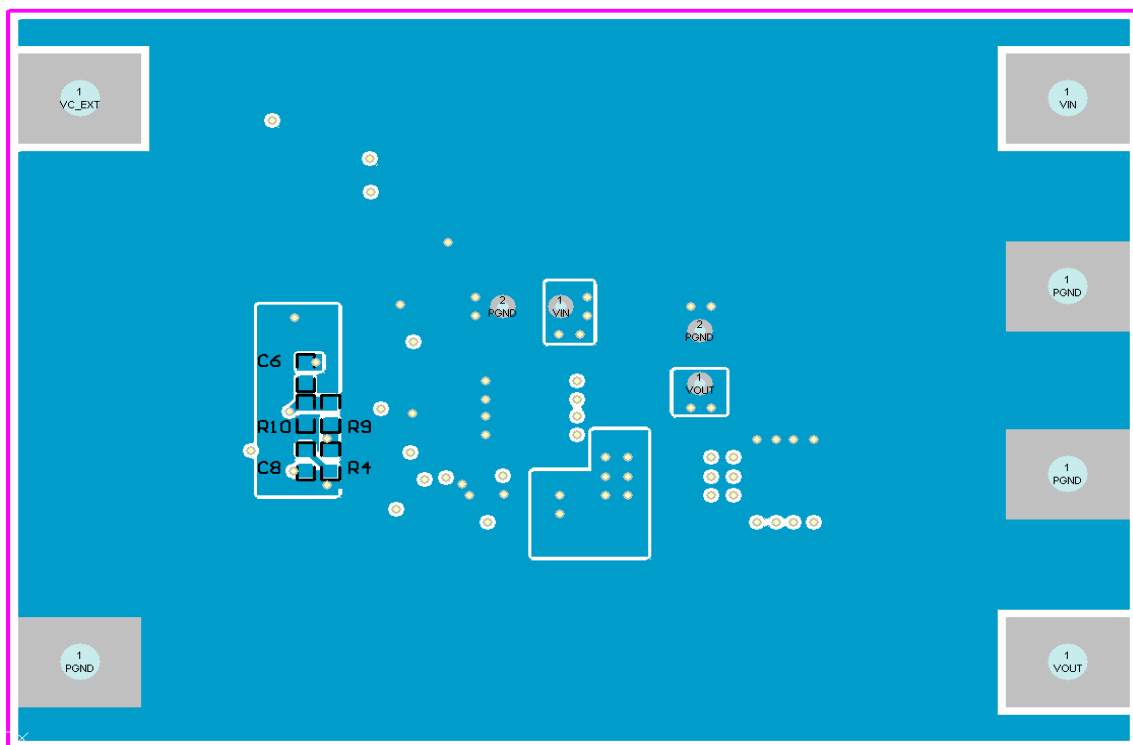

Figure 3d: IRPP3637-06A Reference Design bottom layer layout.
3. A solid ground plane is furnished in mid-layer 2. The connection of the signal ground to power ground is done at a single point in the bottom layer as shown in figure 3d.